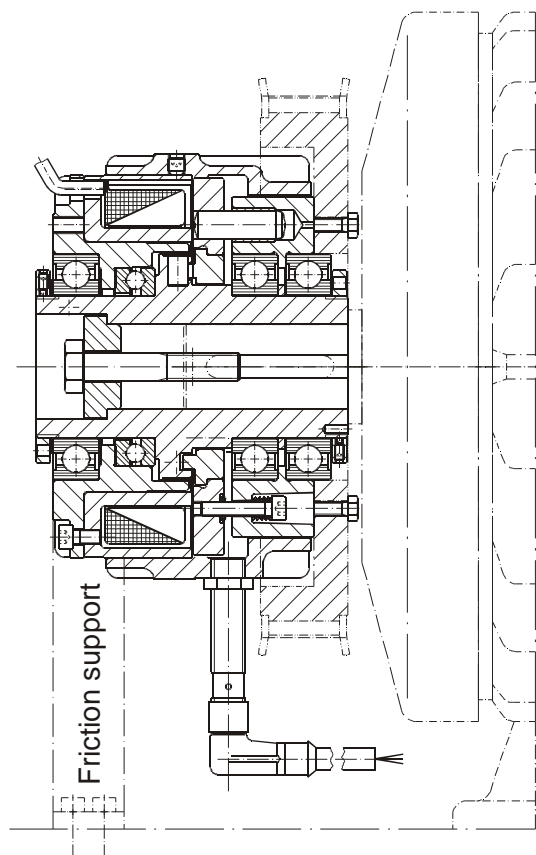

Fig. 2
The drive element is centred on the deep groove ball bearing (8) and screwed to the transmission flange (2) as shown in Fig. 2. The min. screw-in depth is 2,5 x thread Ø.
The cover shown in Fig. 2 (Protection IP 54) prevents the clutch from becoming dirty. At the same time, the cover serves as a mount for the limit switch (proximity sensor). The friction support (Fig. 2) absorbs the bearing friction torque and prevents the magnetic part from rotating.